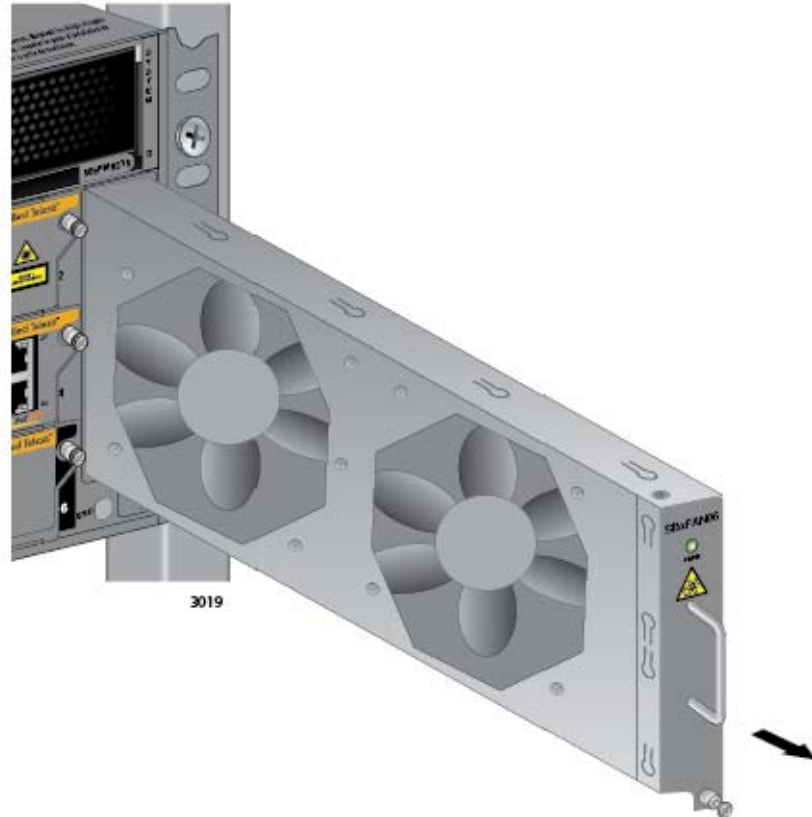

Figure 183. Removing the AT-SBxFAN06 Fan Module from the Chassis
6. After the fans have stopped, slide the module from the chassis. Refer to Figure 183 on page 288.